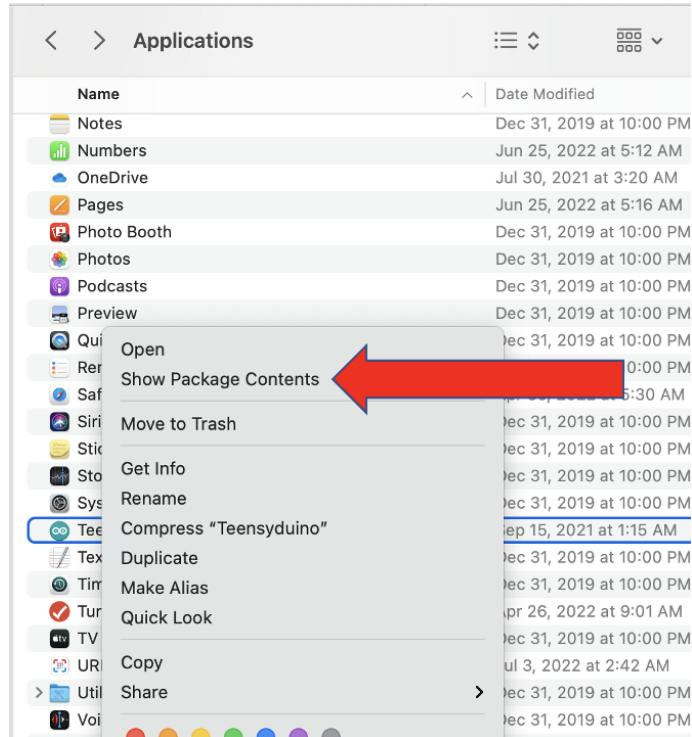

Figure 67. “Show Package Contents” option.
2. When applications window opens, right click on Teensyduino (Figure 67)